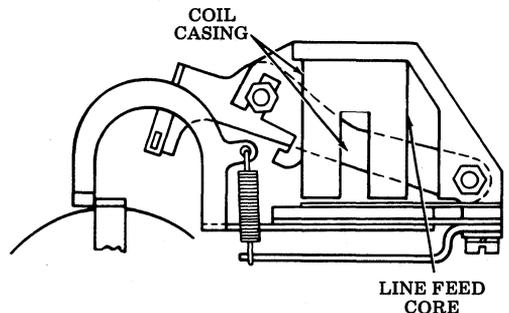

Fig. 35
5.11 Check that line feed coil is securely mounted on its core. Check for discoloration due to overheating on line feed coil casing. (See Fig. 35). If either of these conditions exist, replace line feed mechanism and perform CLUTCH DRIVE BELT TENSION adjustment.